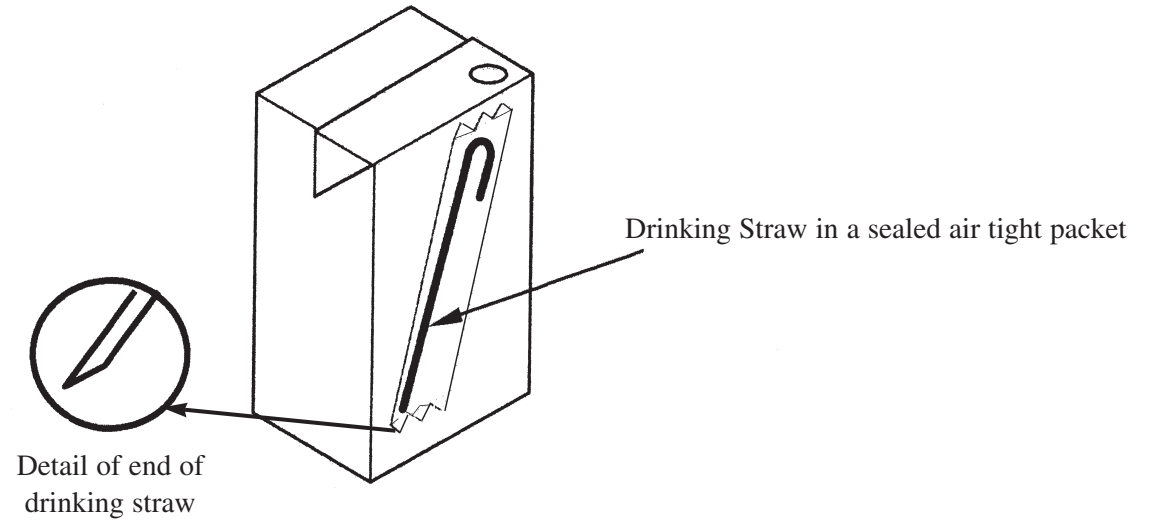

Figure 6
- (b) Figure 6 shows another popular type of drinks container.